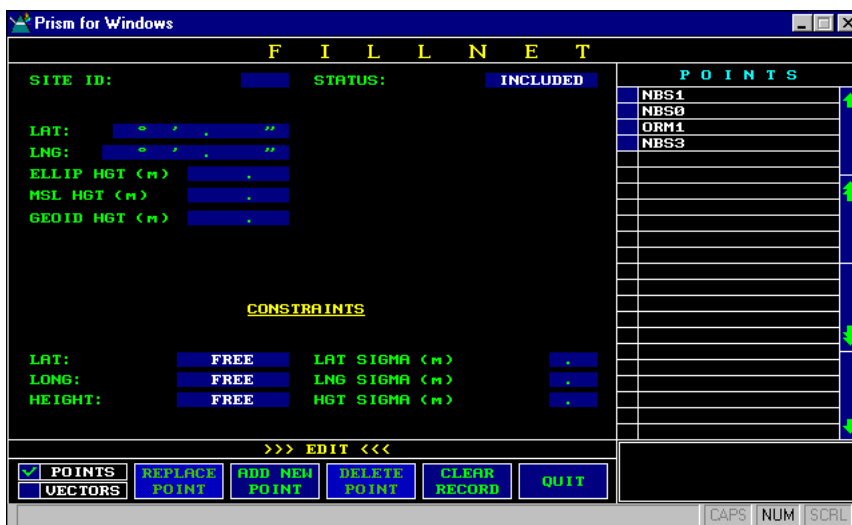

Figure 2.6: Edit Points Menu
- Click on the **EDIT SITE** option. The **EDIT POINTS** menu, Figure 2.6 should appear.
If the O-files had both fixed and float solutions available, try using the alternative solution and reprocess. To tag the alternative solution, click on **QUIT** to return to the main menu, and then click on the **EDIT SITE** button. Figure 2.6 on Page 19 shows **EDIT POINTS** menu screen. In the lower left-hand corner, click on **VECTORS** to bring the **EDIT VECTORS** menu up (Figure 2.7 on Page 20) and then tag the appropriate vector. The vector information should appear on the screen. Click on the box next to the alternative solution, and then click on **REPLACE VECTOR**. Click on **QUIT** to return to the main menu and then re-adjust the adjustment in **AUTOMATIC**.